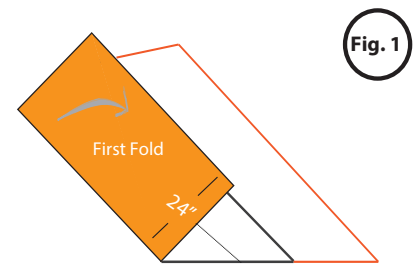
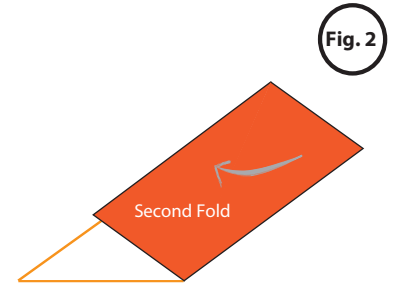

Fig. 1
Fig. 2
7) Wetting Out: Open resin bags and pour 75% onto the fiberglass mat. Use the squeegees and spatulas to spread the resin evenly and liberally to coat the surface of the mat. Flip entire mat over. Pour out remaining resin and spread out evenly. Fold the right side of the wetted mat over to the **black** center line located on the woven side of the mat as shown in (Fig. 1). Fold the left side of patch overlapping the edge of the first fold by 1"(Fig. 2).